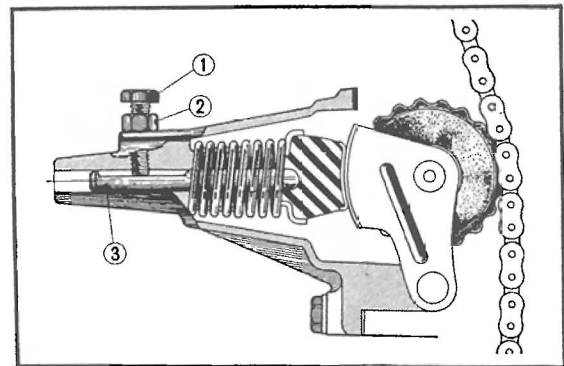

Fig. 3.24 Cam chain tensioner
8. Adjust the cam chain tension. (Refer to Fig. 3.24)